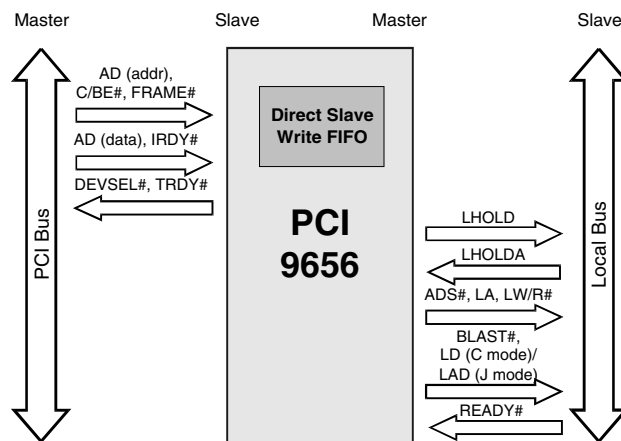

Figure 5-6. Direct Slave Write
*Note:* Figure 5-6 represents a sequence of Bus cycles.